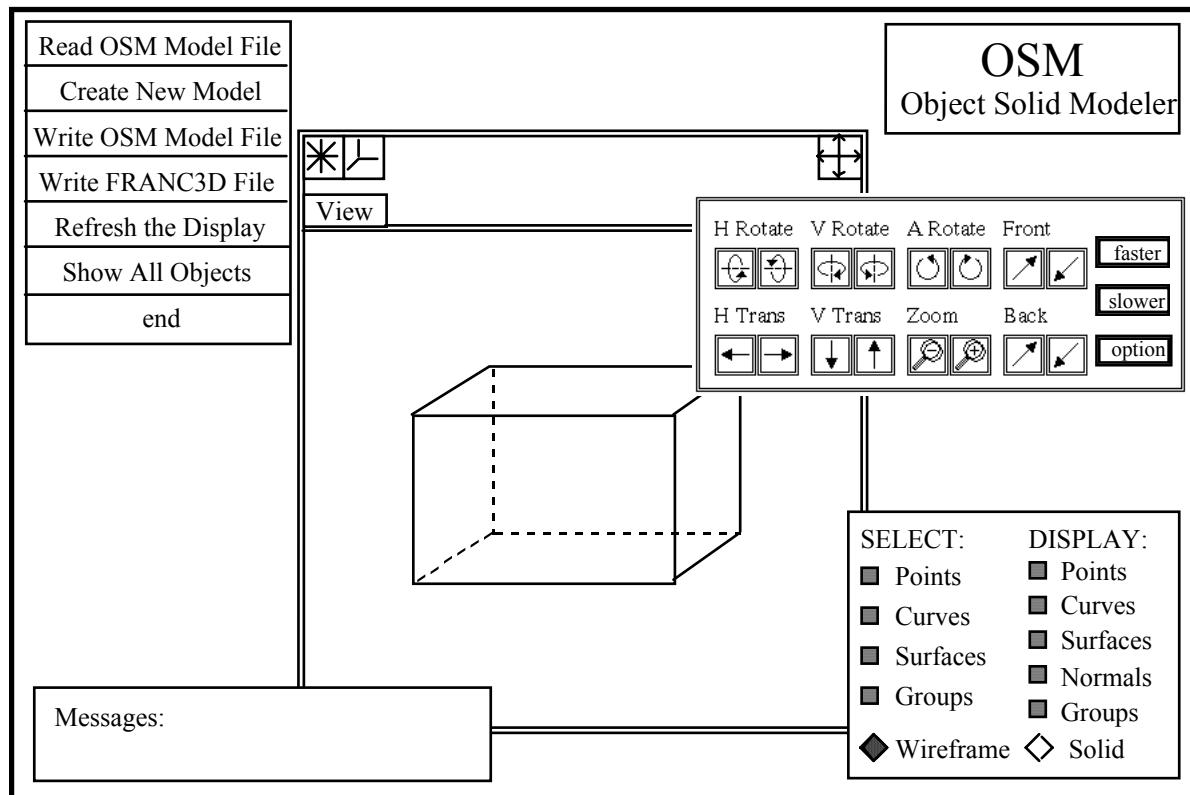
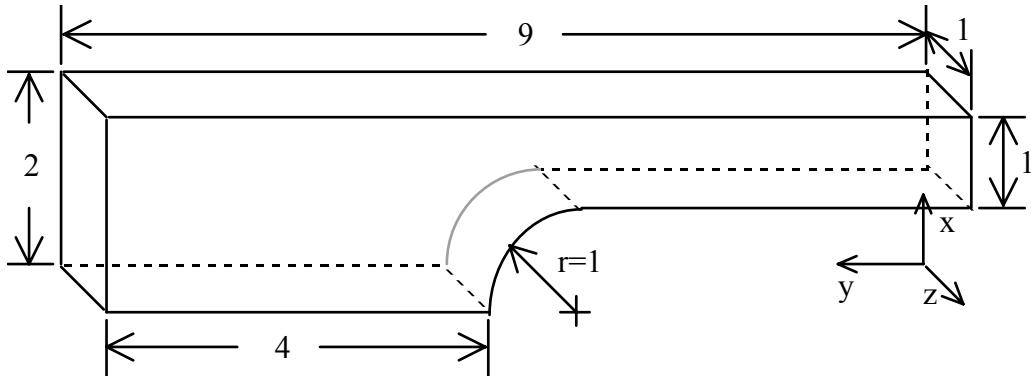

Figure 2.1. OSM modeling window and menus.
Figure 2.2. Solid model, axes, and dimensions.
Start OSM to view its menus, title box, message box, and view control panel (Figure 2.1). The modeling window does not yet exist; selecting either Read Osm Model File or Create New Model from the first menu creates it. If you have existing OSM .mod files, you can read them and proceed to modify them; otherwise you must create a new model. We will create a new model (Figure 2.2) for this tutorial.
Step 2: Generate a set of key points. For this model, we have done this from the drafted figure (Figure 2.2). The key points on the front face (xy plane) are:
The geometry file is read by selecting **Read Geometry File**. A file selector box is presented with all the files in the directory with a .dat extension. Select the file called tutorial.dat, either by double clicking on the file name with the left mouse button, or by single clicking on the name to highlight it and then selecting **Accept**. If the data in the file is okay, it will be read and the model geometry (see Figure 2.2) displayed in the modeling window with no messages appearing in the message box.